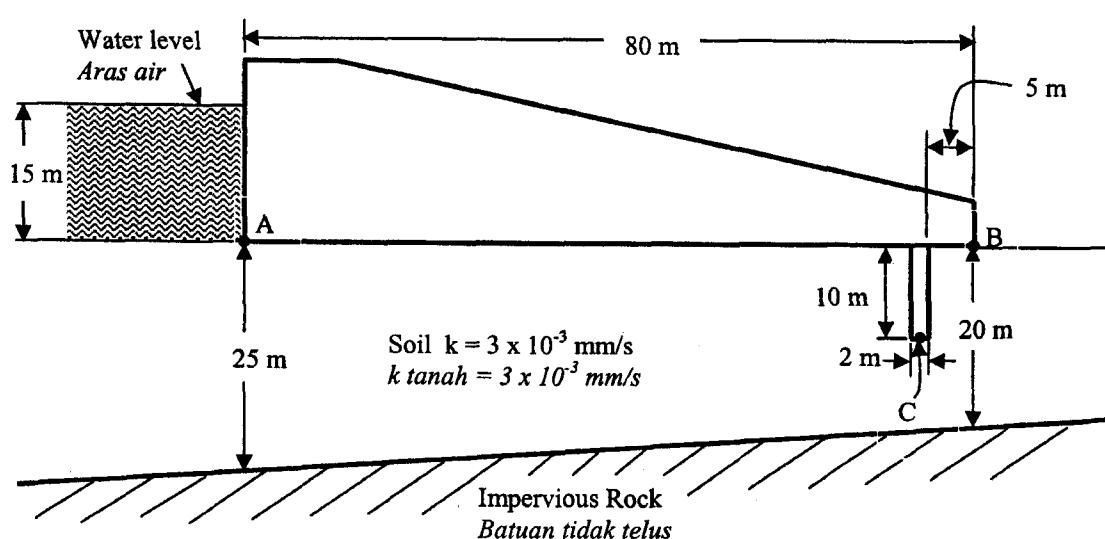

Figure Q4
- (b) A concrete dam as shown in Figure Q4 is constructed over a soil with a sloping impervious bedrock, and a cut-off wall is positioned as shown to reduce seepage. Determine the seepage per day per metre length of dam if k for the underlying soil is 3×10^{-3} mm/s. Sketch the uplift pressure diagram, and give the pressure at points A, B and C.